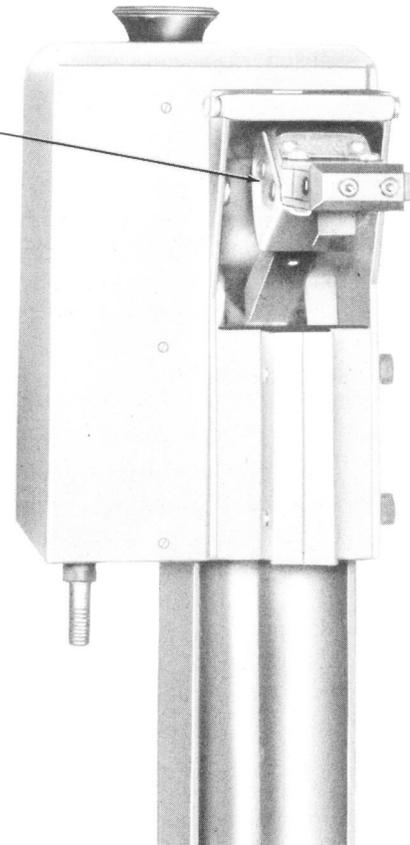

Fig. 6—Guard Removal
- (c) Remove the presser guard by using a 5/64-inch hexagonal Allen Key Wrench (Fig. 6).